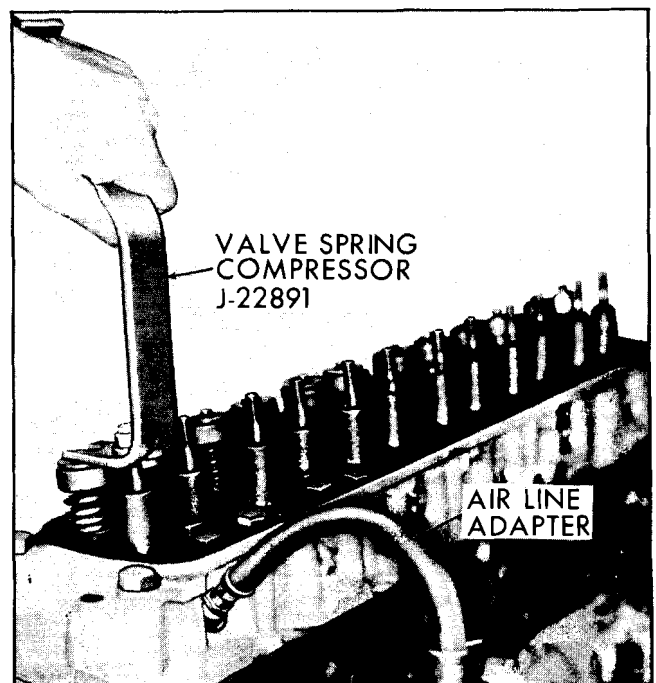

Fig. 6-21 Valve Spring Compressed
4. After removing rocker arm, thread rocker arm nut on rocker arm stud. Insert slotted end of tool J 22891 under rocker arm nut. Compress valve spring (Fig. 6-21) and hold to allow removal of valve spring retainer cup locks, valve spring retainer cup shield and valve stem seal.